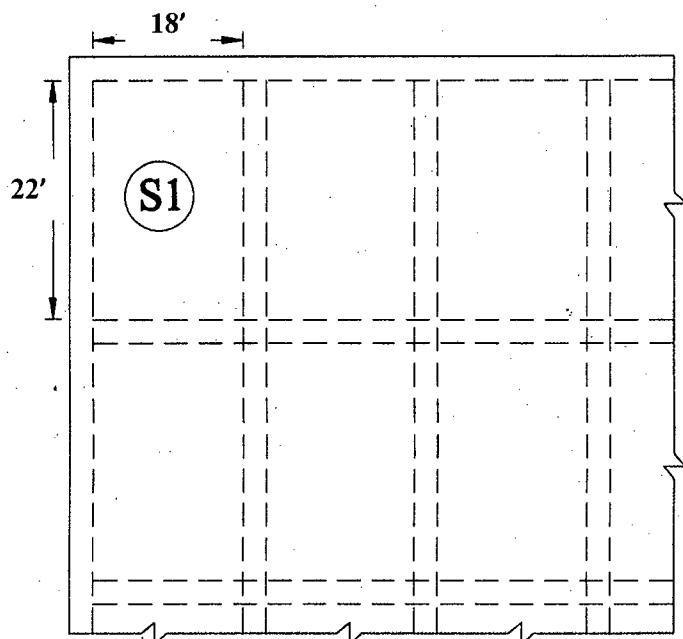

Figure: 04
3. Design the two way slab panel 'S1' as shown in Fig. 04. The slab carries a uniform live load of 40 psf and a super-imposed dead load of 30 psf in addition to its self-weight. Draw the reinforcement details also. Use Table 1, 2 and 3 for calculation. **(23 1/3)**